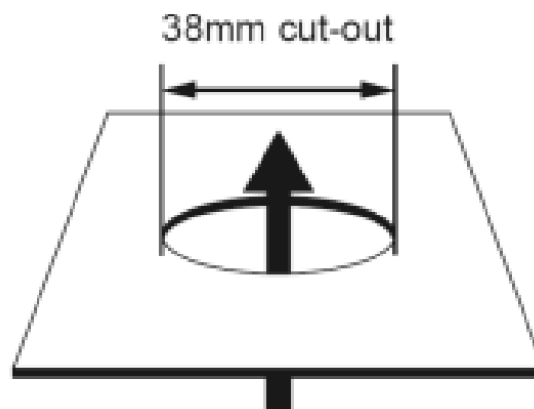

Fig 1
- Cut a suitable hole in the surface as per the cut-out details (see Fig 1) ensuring not to infringe with any joists, gas/water pipes or electrical cables